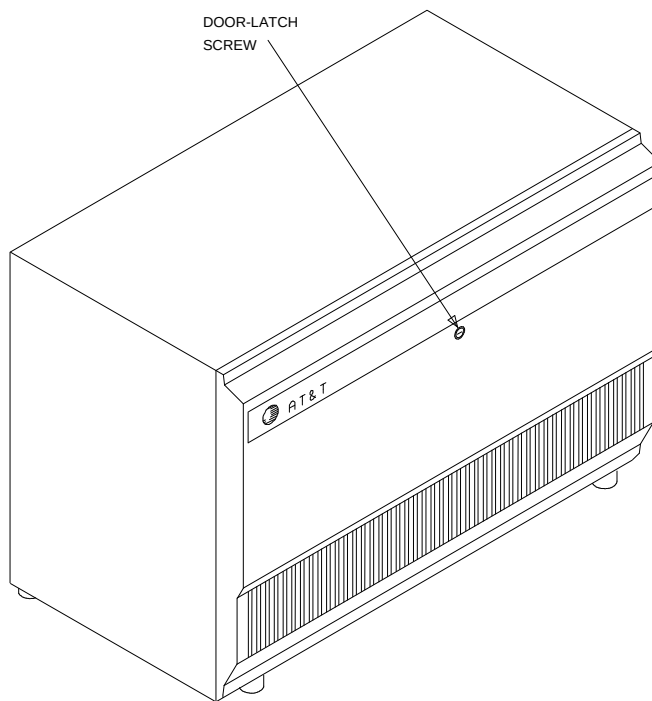

Figure 10-2. Location of Door-Latch Screw for DEFINITY ECS R5si+m Cabinet
1. Use a screwdriver, and turn door-latch screw counterclockwise one quarter turn to release door (see Figure 10-2).